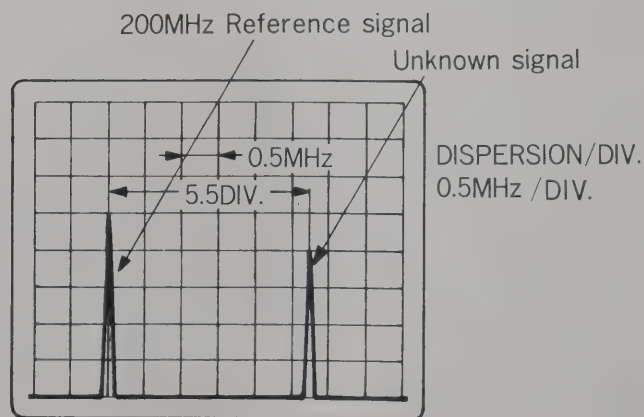

**Figure 3.11 Absolute Frequency Measurement Procedure**
**3.5.2.1.3** Use the TUNING control to position the unknown signal to be measured at the center of the CRT DISPLAY. The frequency of the unknown signal will now be indicated on the CENTER FREQUENCY readout to an error of  $\pm 10$  MHz (see Figure 3.11).